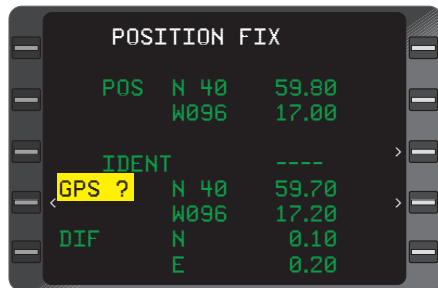

Figure 3-178
3. **BACK** Key - DEPRESS until the desired sensor (preferably the GPS sensor) to be used as the update reference appears in the cursor. The position of each sensor will appear sequentially along with the **DIF** to the composite position. (Figure 3-178)